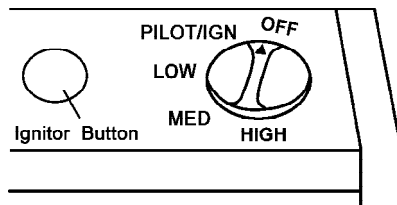

Figure 18 - Control Knob in The OFF Position
3. Push in control knob slightly and turn clockwise ↻ to the OFF position (see Figure 18).